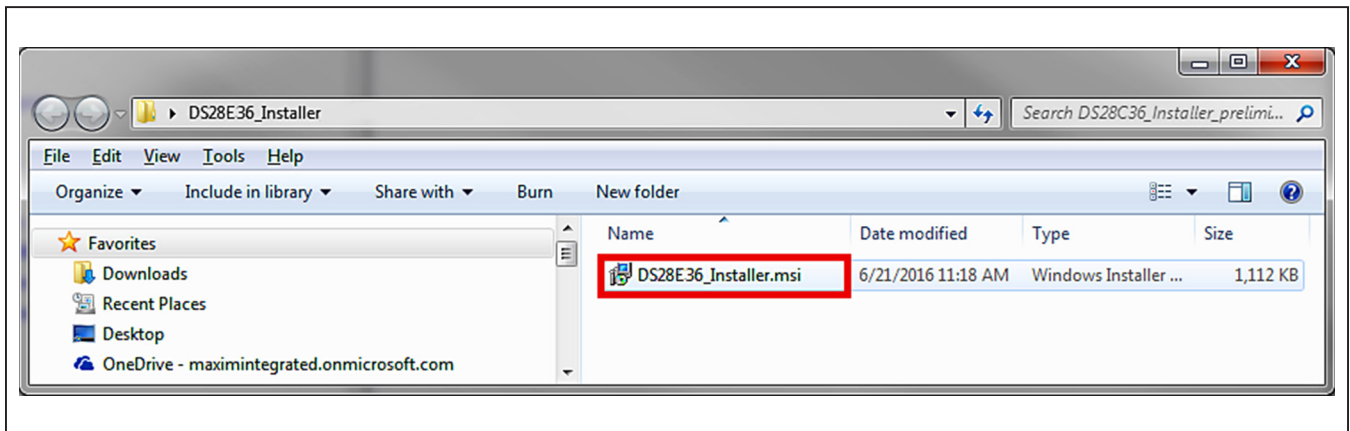

Figure 2. File Viewer
- 2) In a file viewer, double click on **DS28E36\_Installer.msi** to begin the installation (Figure 2).